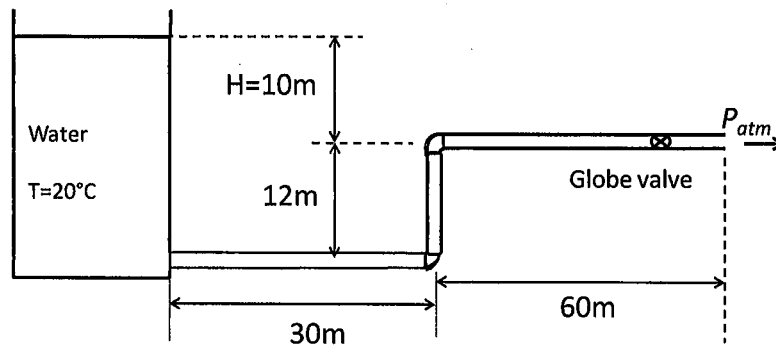

Figure 2
4. (CO3) (a) Find the discharge Q (m^3/s) through the 150 mm diameter clean cast iron pipeline in Fig.2 for $H=10\text{m}$. Loss coefficients for entrance=0.5, each elbow=0.9, globe valve=10. Assume water density = 998.2 kg/m^3 and viscosity= 10^{-3} Ns/m^2 at 20°C .